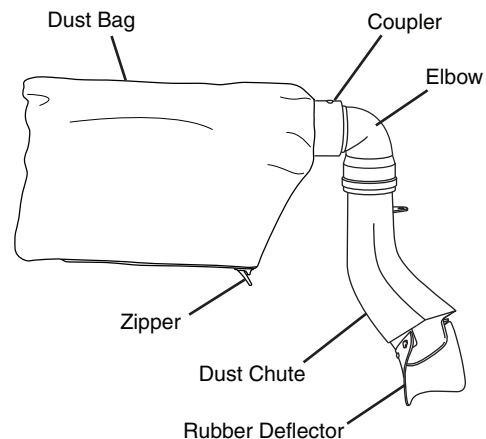

Figure 7
**Cleaning Dust Bag** – After the dust bag is 2/3 to 3/4 full, remove it from the saw. Bring the bag to a proper container and pull open the zipper located on the bottom of the bag. Hold the bag by the coupler end and shake it vigorously until all the dust and debris fall from it. Close zipper and reattach the bag. **NOTE:** Clean the bag at the end of the cutting session and before transporting or storing the saw (see Figure 7).